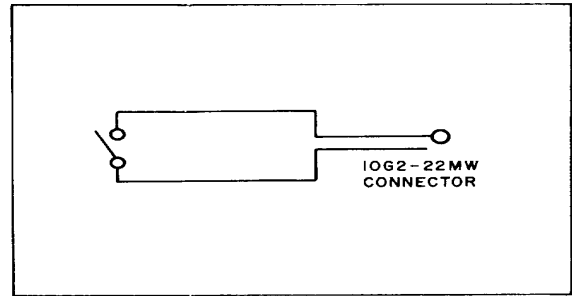

Figure 2-9. Remote Marker Circuit Diagram
2-55. The marker may be operated from a remote location or from the recorder front panel. To operate the marker from a remote location, construct the circuit shown in Figure 2-9. The connector 10G2-22MW is supplied as an accessory with the system. Any length of cable may be used.
2-58. To operate the auxiliary marker, available as 7702A Option 15, construct a switch circuit as shown in Figure 2-9. Plug the switch into the auxiliary marker Jack J14, located on the rear panel of the recorder.
- a. Press the MARKER pushbutton. A mark will be recorded on the lower edge of the chart. To check remote marker operation, connect the circuit shown in Figure 2-9 to J15.
- 4 Connect the switch circuit shown in Figure 2-9 to J15 on the recorder rear panel. Press the remote mark switch to record a reference mark on the lower edge of the Permapaper.
- 5 For systems with an auxiliary marker (Option 15), connect the switch circuit of Figure 2-9 to J14. Press the auxiliary marker switch to record a reference mark between channels on the Permapaper.